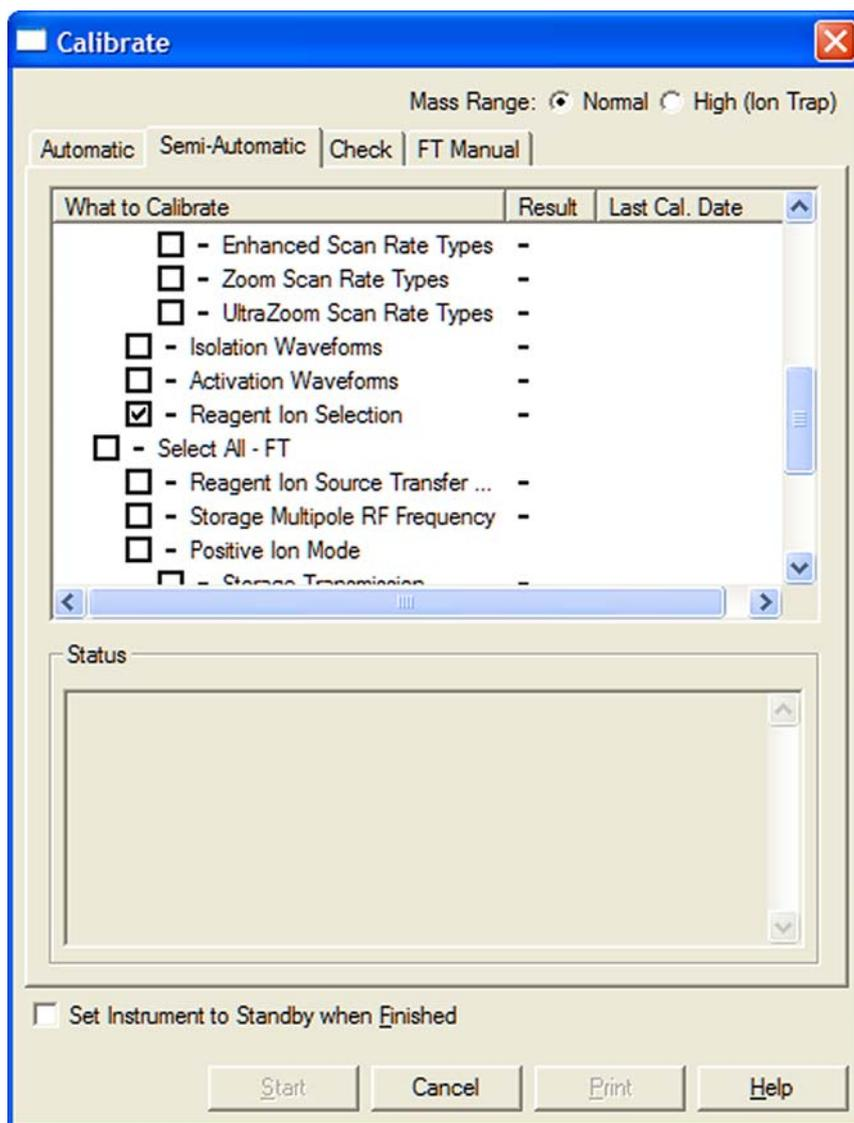
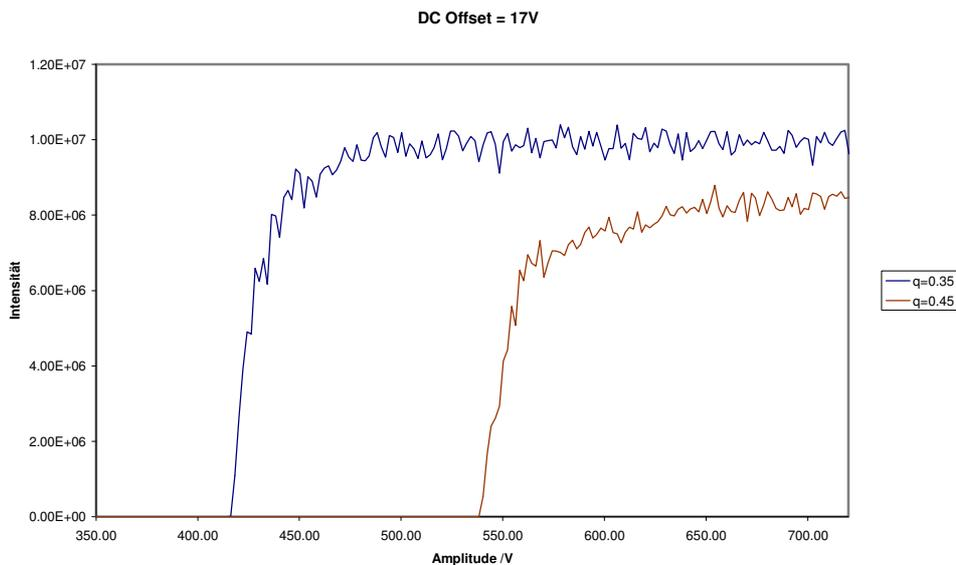

Figure 8-19. Calibrating the Reagent Ion Selection
Figure 8-22. Point of optimum performance
8. Open the Calibrate dialog box and perform a semi-automatic calibration of the Reagent Ion Selection. See Figure 8-19 on page 8-21 and Figure 8-22 on page 8-23.
With offset voltages between 15 V and 20 V, no nodding is visible. See Figure 8-22. The transmission reaches a maximum shortly after the start of the stable region, resulting in a high transmission at optimum filter efficiency. The calibration results in a broad plateau with constant intensity.